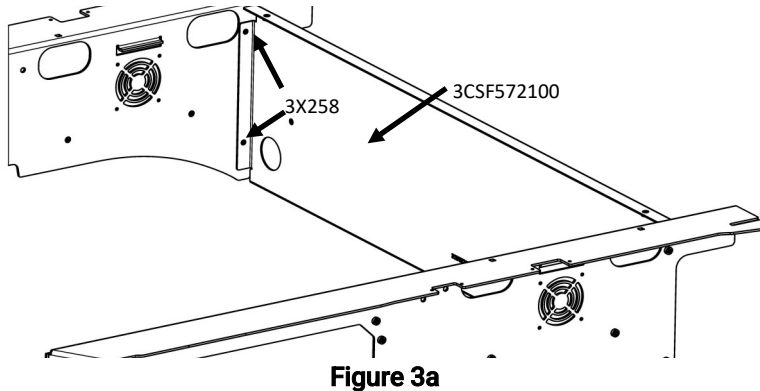

Figure 3a
1. Locate Front Panel Assembly [3CSF572100], (4) [3X258] 1/4"-20x1/2" Button Head Socket Cap Screws, (4) [3X47] #14 x 1-1/2" Self Drilling Hex Head Screws, and (2) [3X254] M10 Socket Head Cap Screws.
2. Mount Front Panel Assembly to Driver Side Panel Assy with 1/4"-20x1/2" Button Head Cap Screws using 5/32" hex drive screws as shown in Figure 3a. Repeat for attaching to Passenger Side Panel Assy. Leave screws loose, they will be tightened in a later step.